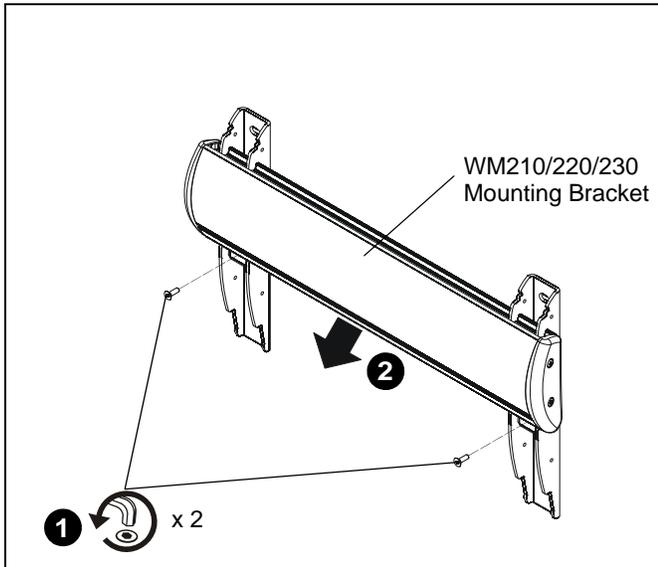

Figure 1
1. Remove two flat head cap screws from dual stud short throw projector mounting bracket. (See Figure 1)
2. Remove existing cross bar from vertical mounting brackets. (See Figure 1)